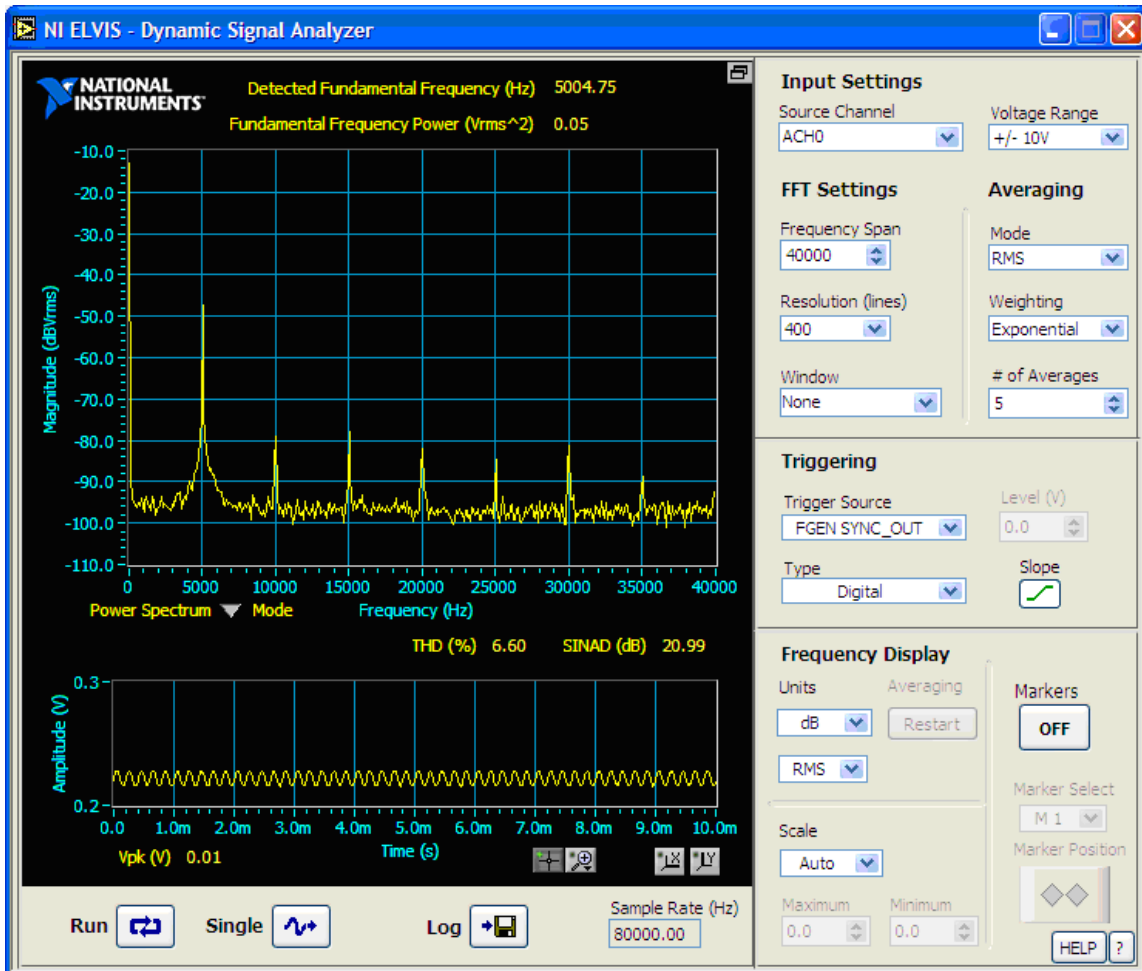

Figure 2.10: Distortion Analysis using NI ELVIS Dynamic Signal Analyzer
5. Click on Dynamic Signal Analyzer on ELVIS Instrument Launcher. The window shown in figure 2.10 should pop up.